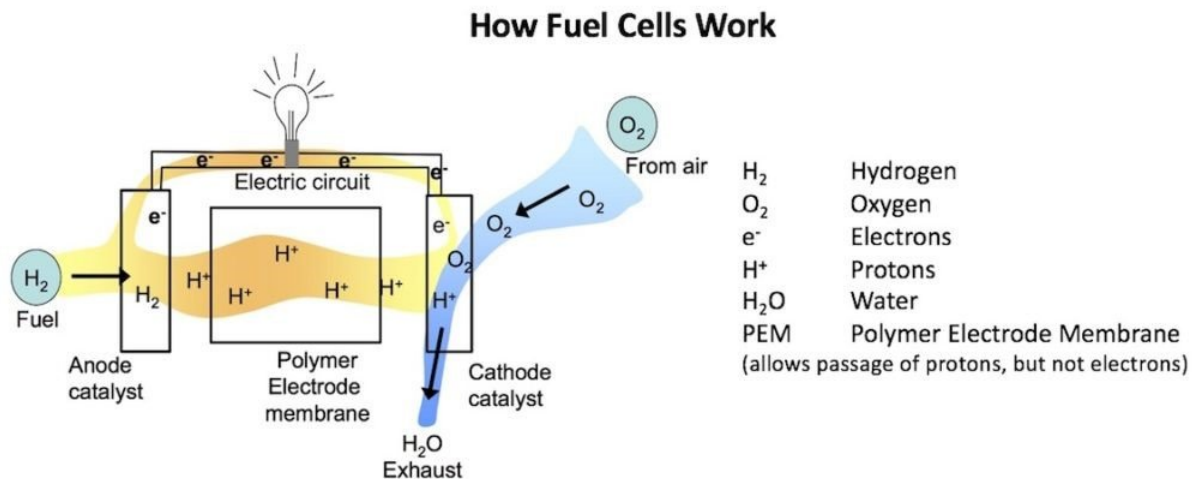

Figure 2. General description of how a fuel cell works. (Modified from: ©2009 Clarkson University, Office of Educational Partnerships).
An electrolyte substance within the battery (B) allows chemical reactions (ion movement) to be completed between the anode (negative side – C) and cathode (positive side – E), allowing current to flow from the battery and perform work (Figure 2). In the case of hearing aids, the work is
In a typical fuel cell, gas (hydrogen) is fed *continuously* to the anode (negative electrode), and an oxidant (e.g. oxygen) is fed *continuously* to the cathode (positive electrode). At the anode site, the hydrogen molecules are oxidized catalytically and split into electrons and protons (Figure 2). An electrolyte (in this case a PEM) facilitates the transfer of hydrogen ions from the anode to the cathode. The electrolyte allows passage of protons, but not electrons. This allows for a positive and a negative charge, which generates an electrical current. The electrons cannot pass through the